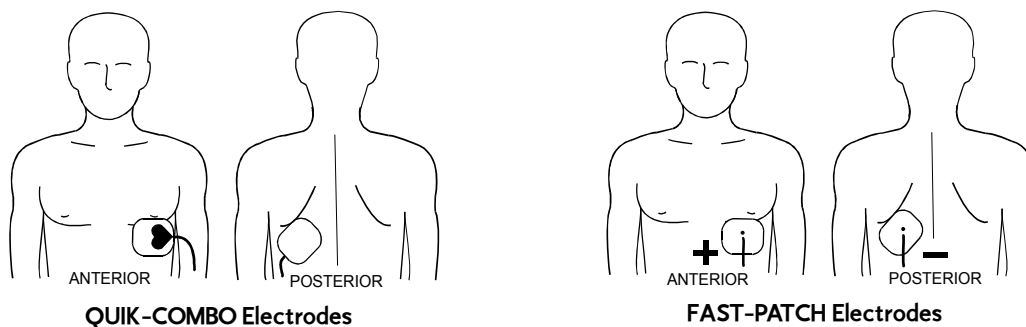

Figure 3-2 Anterior-posterior placement
- 1 Place either the ♥ or + therapy electrode over the left precordium as shown in Figure 3-2. The upper edge of the electrode should be below the nipple. Avoid placement over the nipple, the diaphragm, or the bony prominence of the sternum if possible.
- 2 Place the other electrode behind the heart in the infrascapular area as shown in Figure 3-2. For patient comfort, place the cable connection away from the spine. Do not place the electrode over the bony prominences of the spine or scapula.